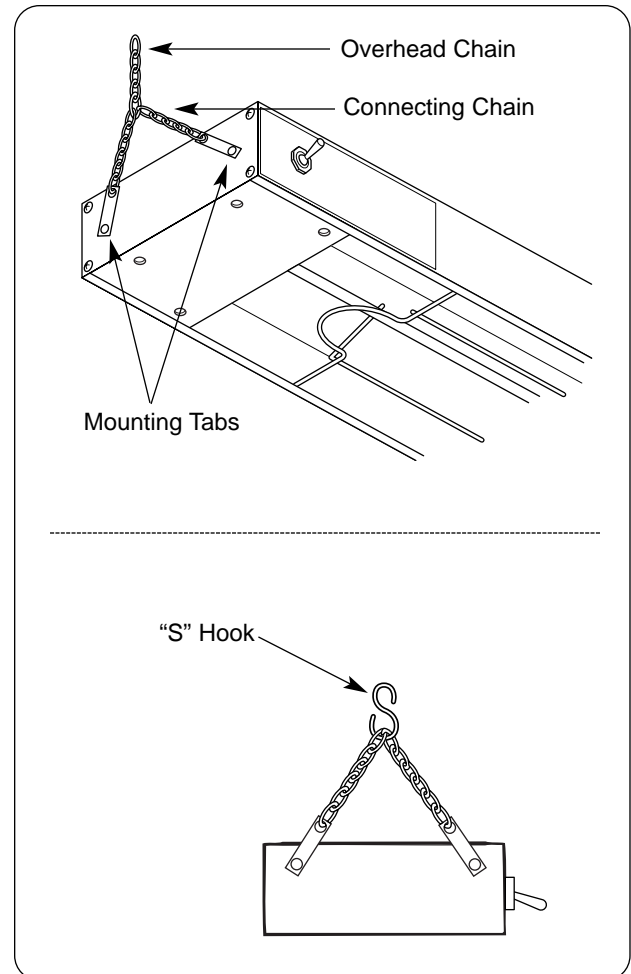

Figure 20. Mounting with Chains
2. Loosen but do not remove the screws securing the mounting tabs on each end of the unit. Extend the tabs, then tighten the screws securely. (See Figure 20.)
3. Attach a short piece of connecting chain to each pair of mounting tabs. (See Figure 20.)
4. Attach overhead chain to the connecting chain between the two mounting tabs. Repeat for other end of unit. (See Figure 20.)
2. Attach both “S” hooks to the overhead chains and ensure the unit is level. (See Figure 20.)